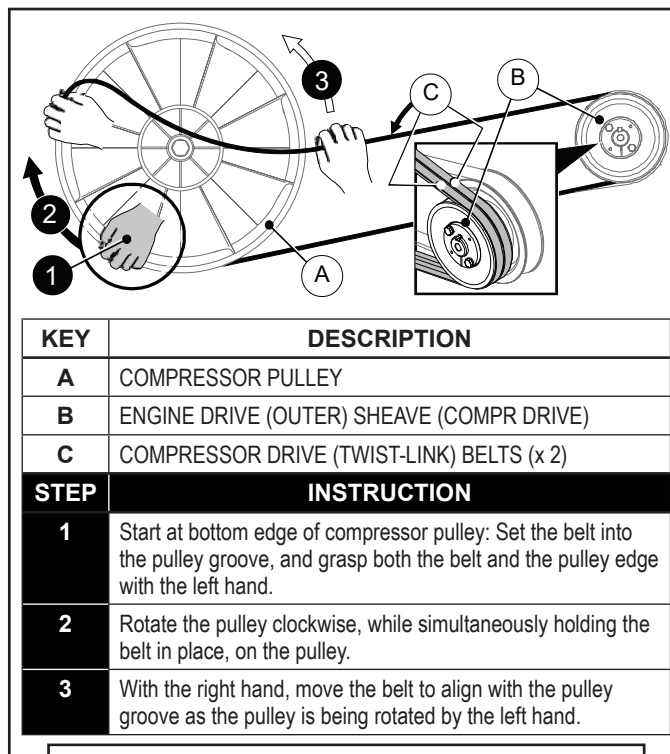

Figure 3-9: Setting Compressor Belt(s) into Place
Refer to *Figure 3-9*, and the following procedure to mount the compressor link drive belts onto the compressor and engine pulleys.
3. Start at the bottom edge of the pulley as per **Figure 3-9**: Continue to set the belt into the proper groove on the compressor pulley (inside belt to inside track; outside belt to out-
side track as in **Figure 3-9**).